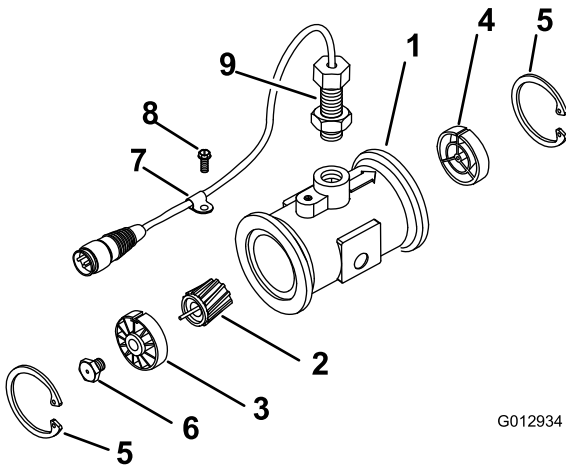

Figure 45
3. Remove the retainer ring on the upstream side (Figure 45).